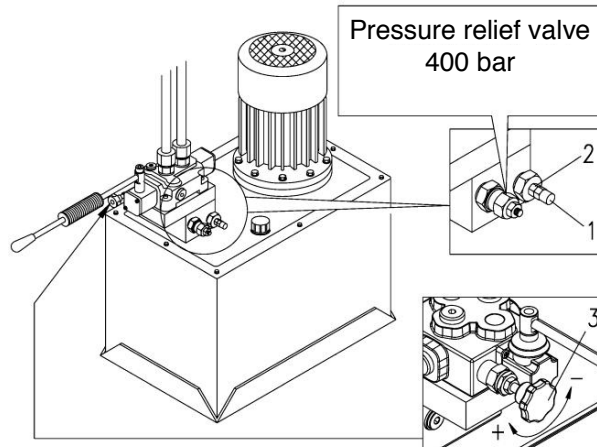

Fig. 10: Setting the press pressure
- To adjust the pressure of the low-pressure stage, remove the cap (Figure 11, item 1) and loosen the nut (Figure 10, item 2). The regulation takes place via the inner screw.
- To regulate the high pressure, press the hand wheel (Fig. 10, Pos. 3) on the pressure control valve.